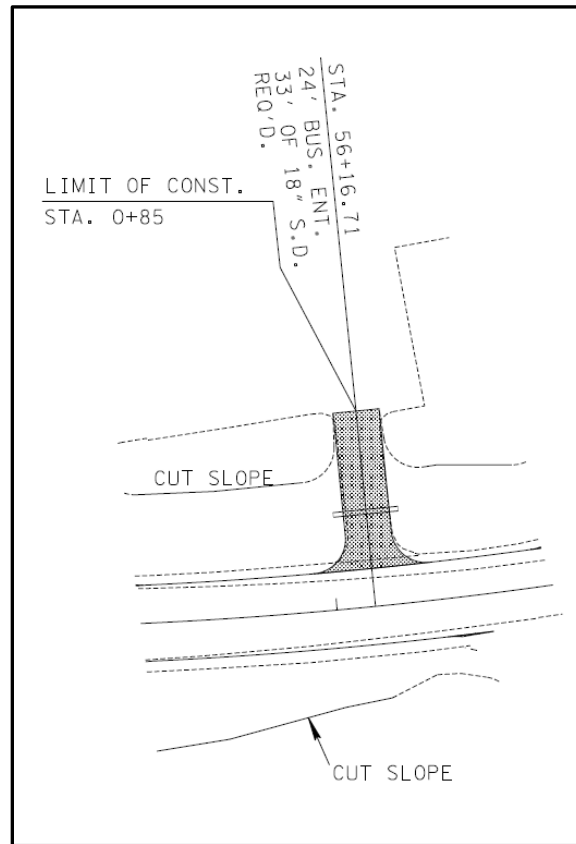

Figure 3-2
1. Use the MicroStation *measure shape* command to find the surface area. For this example, the surface area (shaded area in *Figure 3-2, Concrete Business Drive Example*) is equal to 1730 ft².